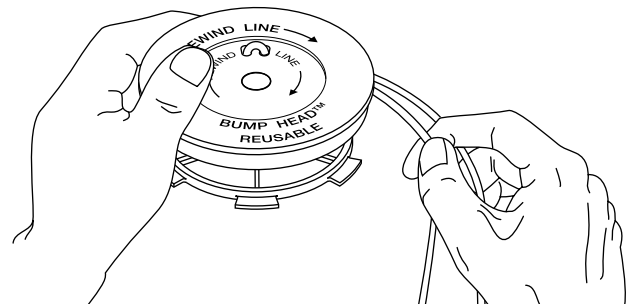

Figure 23
- Wind the lines in tight even layers, onto the reel. Wind the line in the direction indicated on the inner reel. Place your index finger between the two lines to stop the lines from overlapping. Do not overlap the ends of the line. See Figure 23. Proceed to step 11.